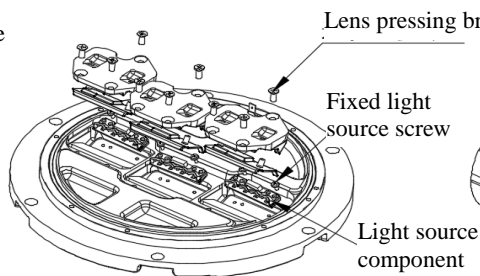

Figure 4-6
- Dismount the screws shown in Figure in succession and take out the light source component (Figure 4-6);